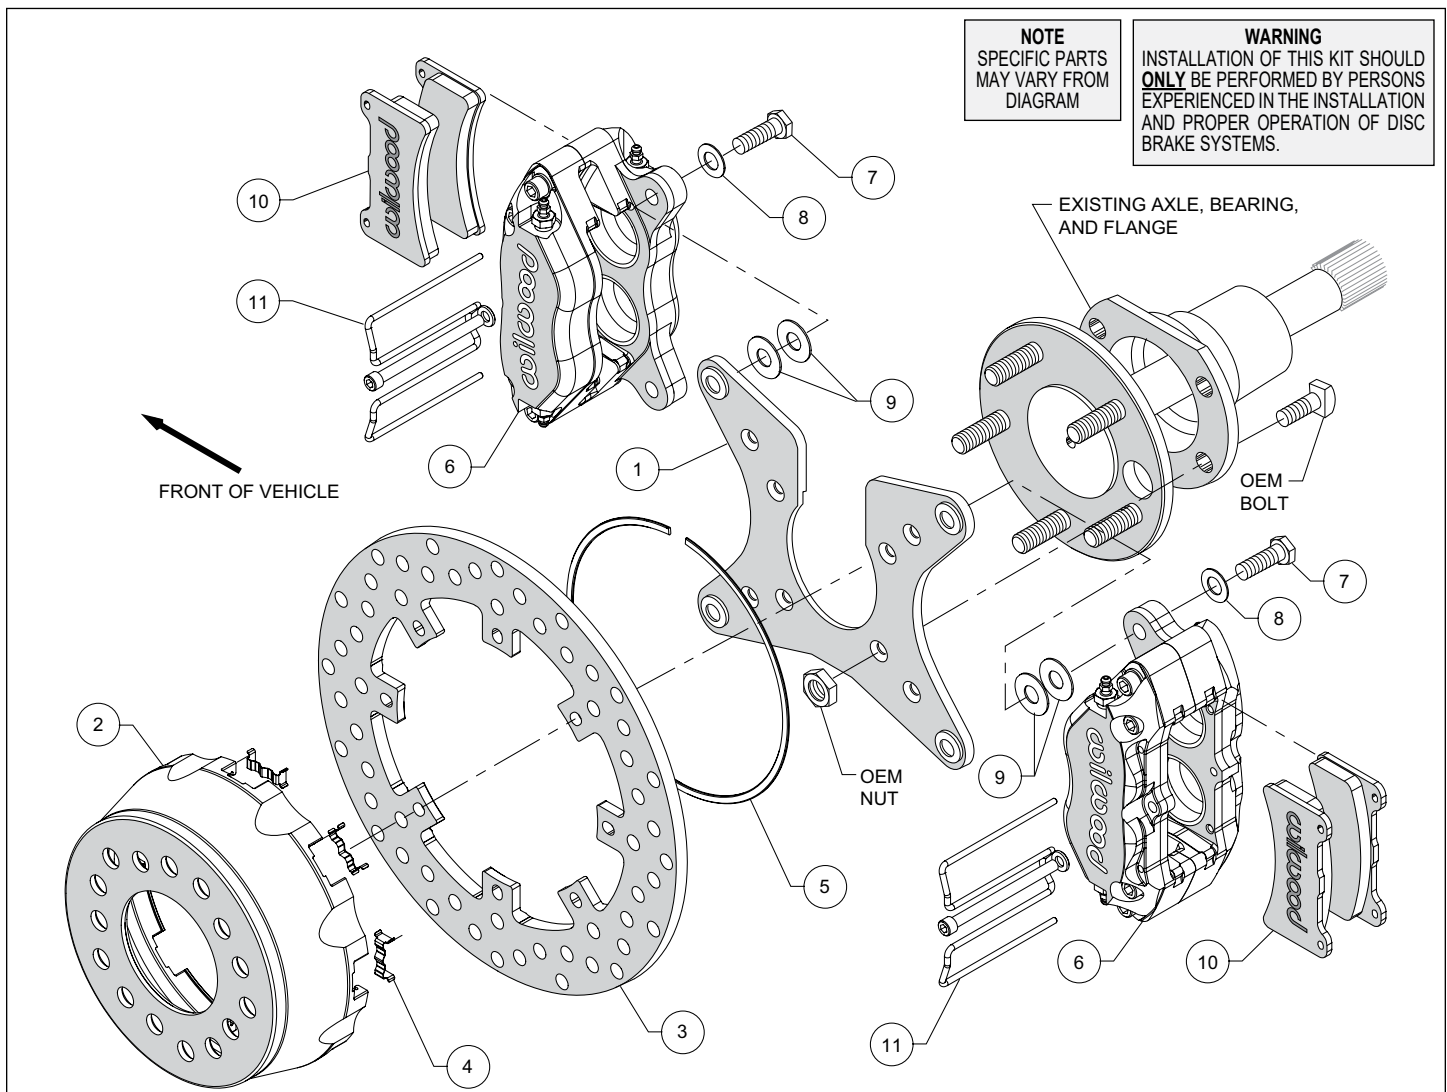
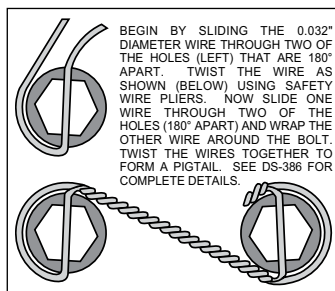

Figure 1. Typical Installation Configuration
Figure 5. Safety Wire Diagram
**Assembly Instructions** (numbers in parenthesis refer to the parts list and Figure 1 on the preceding pages): **CAUTION:** All mounting bolts must fully engage clinch nuts. Be sure to check that all bolts are either flush or protruding through flanged side of clinch nut after shimming, Figure 5.
- Install the caliper mounting bracket (1), with the slot for the axle pointing upward, to the housing flange using the OEM bolts and nuts, as shown in Figure 1 and Photo 1. Ensure that the caliper mounting ears on the bracket are oriented fore and aft on the car, with the heads of the clinch nuts facing outboard, Photo 1. Apply red *Loctite*® 271 to the OEM bolt threads and torque to OEM specifications.
- Insert the dynamic mount wear clips (4) into the slots in the hat (2) making sure the tabs snap in place, Photo 2. Orient the rotor (3) as shown in Figure 1 and Photo 3, with the flush mount tab side facing the hat. Attach the rotor to the hat using snap ring (5) by pushing down on the rotor and installing the ring into the groove in the hat, as shown in Photo 4. Ensure that the ring is fully engaged in the groove.
- Align the correct hole pattern in the hat (2) with the axle stud pattern and slide the hat/rotor assembly onto the axle hub. **NOTE:** The hat must fit flush against the axle flange or excessive rotor run out may result. Install three lug nuts (finger tight) to keep the hat/rotor in place while continuing with the installation. **NOTE:** Some OEM and aftermarket axles come with stud sizes larger than 0.50" diameter. Verify stud size, and if necessary, have a qualified machine shop drill the hats to the correct size.
- NOTE:** Please reference the caution statement at the beginning of the assembly instructions. Mount one caliper (6) onto the mounting bracket (1) using bolts (7) and washers (8), as shown in Figure 1. Initially place two .035" thick shims (9) on each bolt between the caliper and the bracket, Photo 5. Temporarily tighten the mounting bolts and view the rotor (3) through the top opening of the caliper. The rotor should be centered in the caliper, Photo 6. If not, adjust the caliper by adding or subtracting shims between the bracket and the caliper. Always use the same amount of shims on each of the two mounting bolts. **NOTE:** The
For an added measure of security, the bolts may be safety wired using standard 0.032 inch diameter stainless steel safety wire as shown in Figure 5. Please refer to Wilwood's data sheet DS-386 (available at [www.wilwood.com/Pdf/DataSheets/ds386.pdf](http://www.wilwood.com/Pdf/DataSheets/ds386.pdf)) for complete safety wire installation instructions. Repeat this procedure for the second caliper.